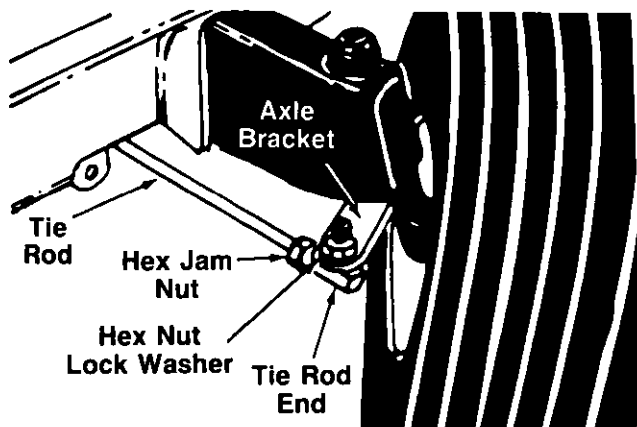

FIGURE 22.
1. Remove the hex nut and lock washer, and drop the tie rod end from the axle bracket. See figure 22.